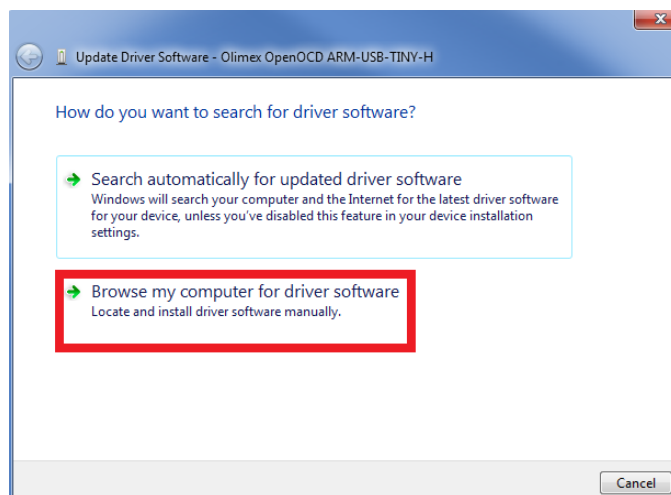

Figure 11 - Browse for drivers
- Choose to browse for the driver (Figure 11).